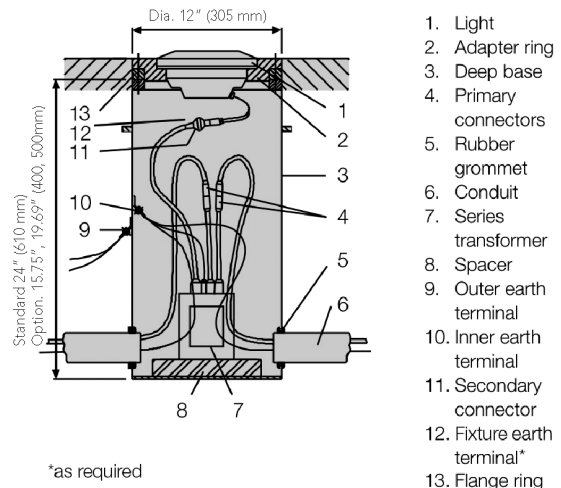

Fig. 7: Installation on FAA L-868 base
2) On a FAA L-868B size B steel base (Fig. 7).